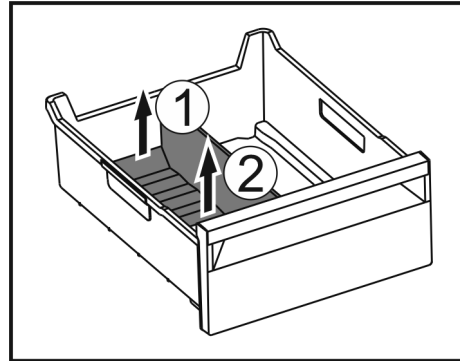

Fig. 97
- ▶ Lift the rear part of the ice compartment divider. Fig. 97 (1)
- ▶ Remove the ice compartment divider upwards. Fig. 97 (2)